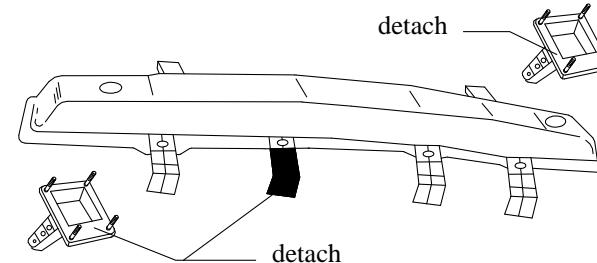

Fig. 2
2. Detach reinforcement of the bumper. From reinforcement detach fasteners (not used any more) and detach small fasteners on the left side – see figure 2.